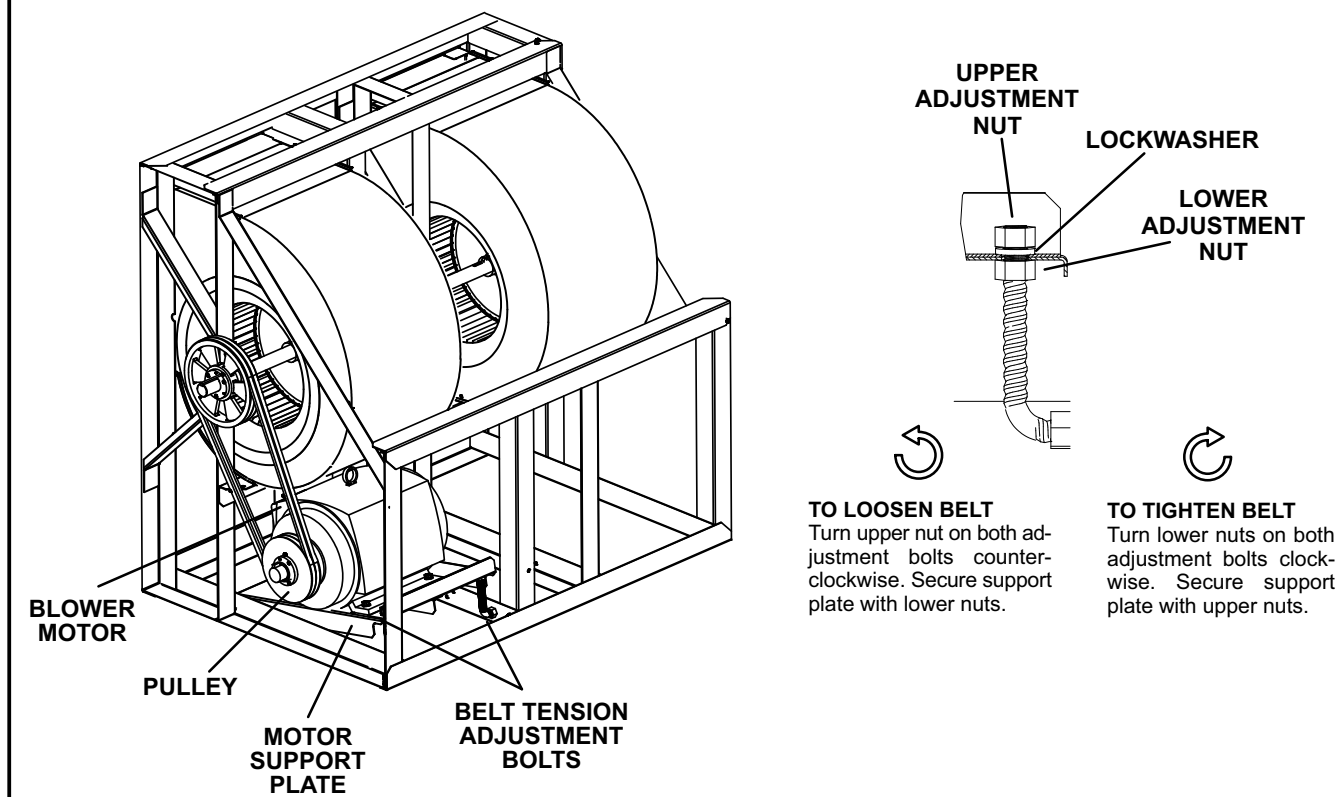
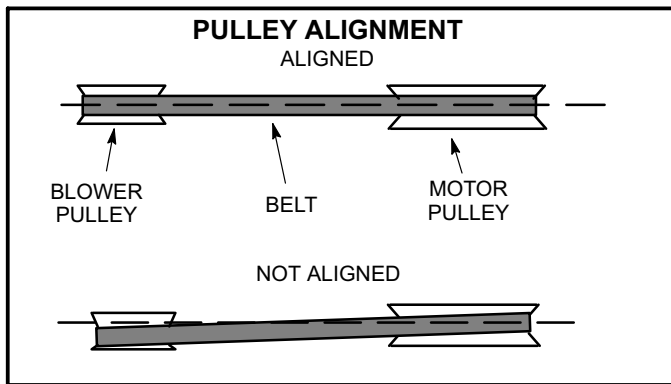
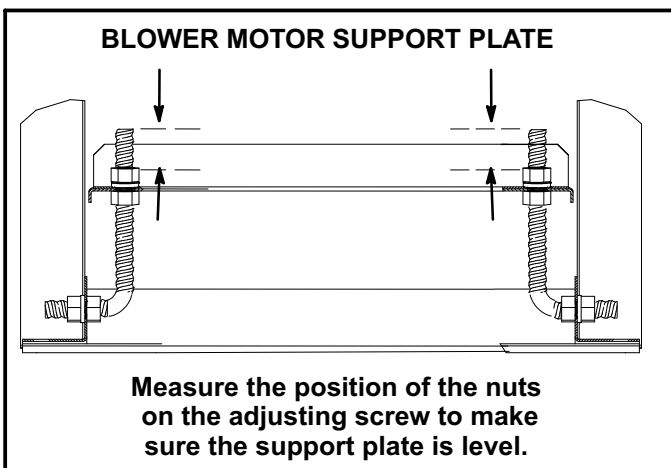

FIGURE 10
FIGURE 11
FIGURE 12
- 2- The RPM can be adjusted at the motor pulley. Loosen Allen screw and turn adjustable pulley clockwise to increase CFM. Turn counterclockwise to decrease CFM. Secure Allen screw. See figure 10.
Maximum life and wear can be obtained from belts only if proper pulley alignment and belt tension are maintained. Tighten belt as shown in figure 10. Tension new belts after a 24-48 hour period of operation. This will allow belt to stretch and seat to grooves. Make sure blower and motor pulley are aligned as shown in figure 11. Also make sure motor support plate is level. See figure 12.